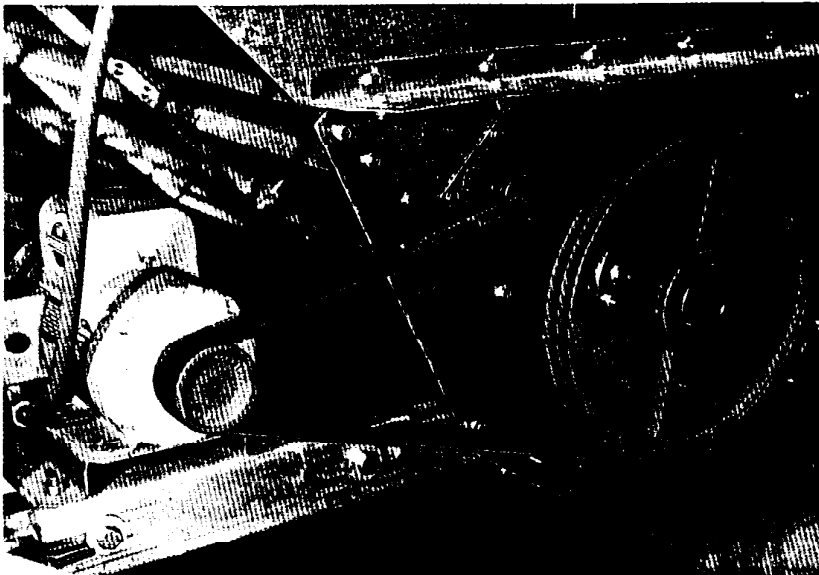

Figure 2
10. Inspect the top auger and bottom auger drive lines for proper adjustment and condition. Readjust line tension, as required. See figure 2.